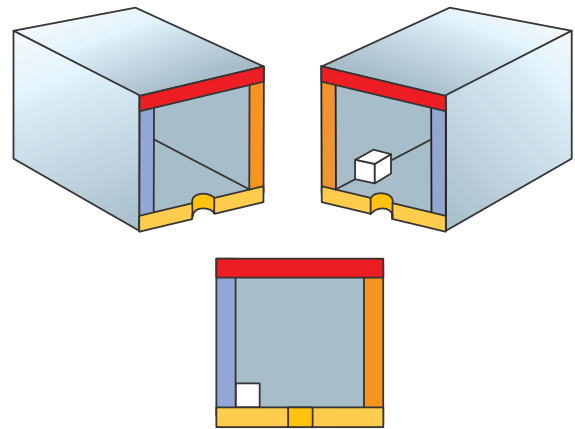

FIGURE 4-8 Sectioning of parts can be used to show internal details more clearly. © Cengage Learning 2012
- **Section view**—The section view is made as if you were to saw away part of the object to reveal internal details, Figure 4-8. This is done when the internal details would not be as clear if they were shown as hidden lines. Sections can either be fully across the object or just partially across it. The imaginary cut surface is set off from other noncut surfaces by section lines drawn at an angle on the cut surfaces. On some drawings the type of section line used illustrates